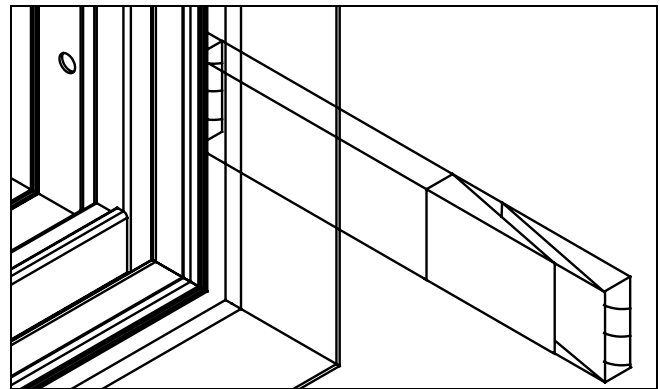

Figure 6
3. Place shims at the bottom corners of jambs behind the pre-drilled screw holes in jamb. Drive the screws provided into the pre-drill holes in jambs at bottom corners. See figure 6. Make sure frame is square.